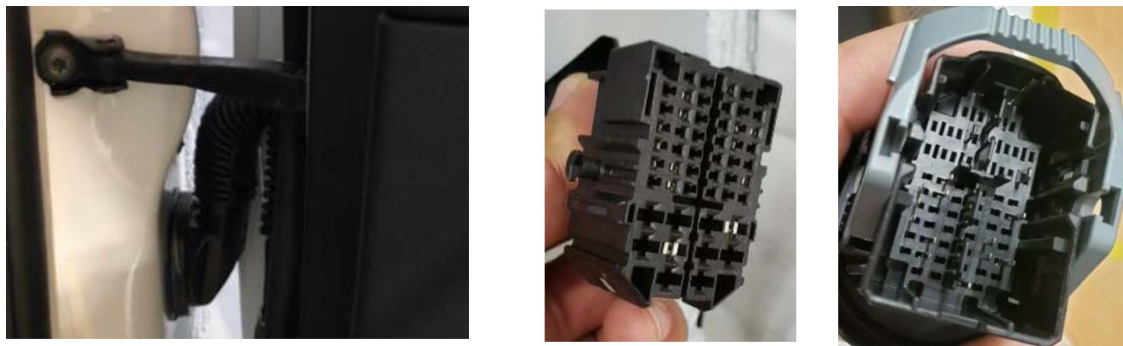

Fig. 3
4. Remove wiring harness from A-pillar (Fig. 3) .
5. Inspect electrical connection for corrosion (Fig. 3) .
6. Clean the electrical connection (Fig. 3) .